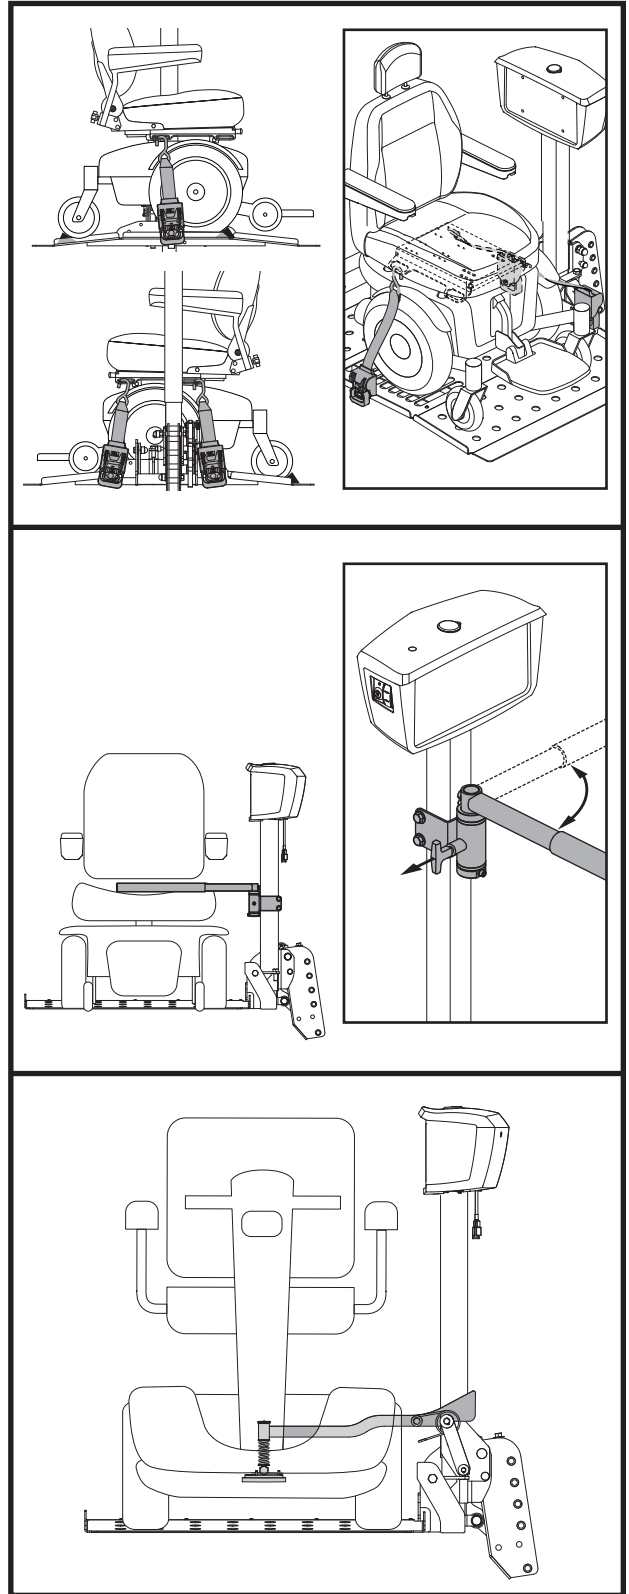

Figure 16. Securement of the Unit
- Pull the strap out and secure it to the opposite side of the platform. Attach straps to the securement points of the mobility product. **See figure 16.**